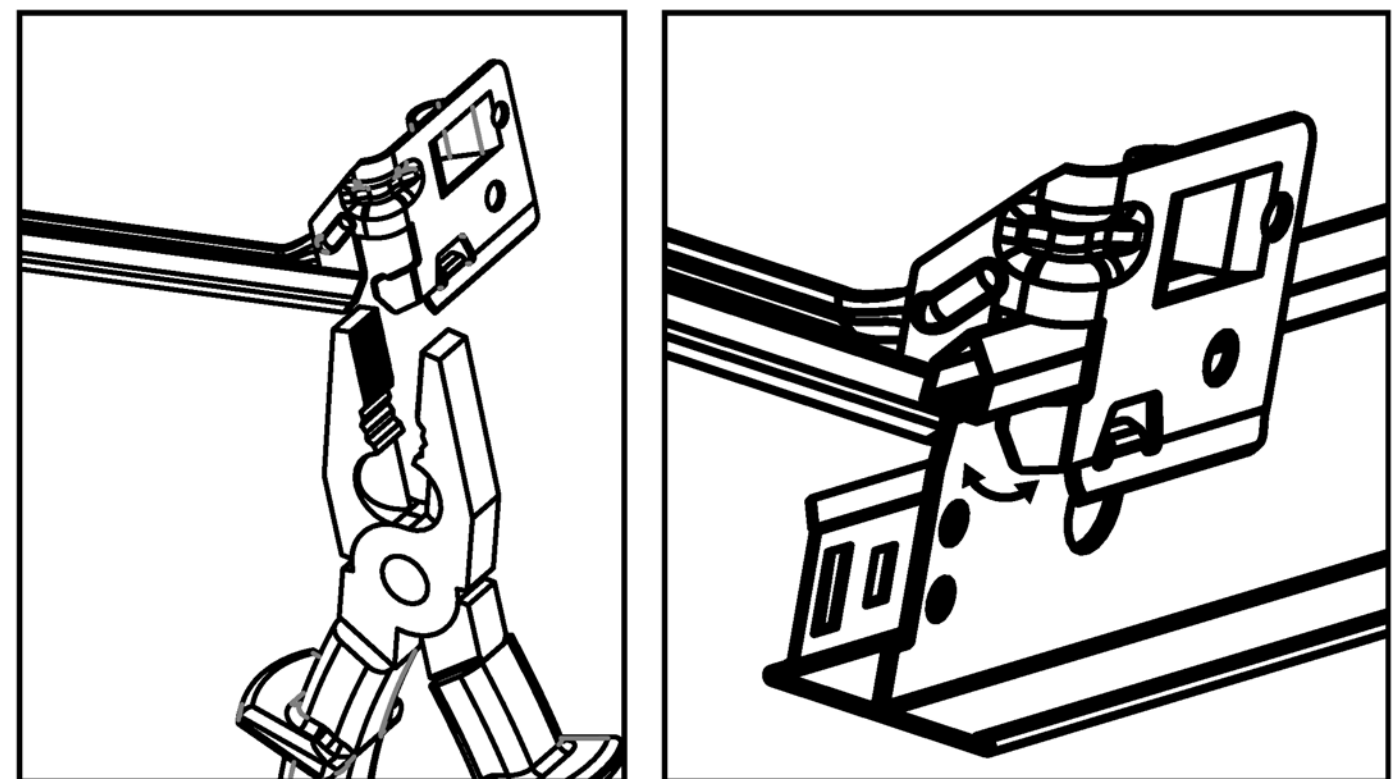

Figure 4
2. Locate the four (4) T-bar slots near the end of the bar hanger. Slip the hanger bar over the T-bar and press the tabs against the back of the T-bar to hold it in place. (See Figure 4).